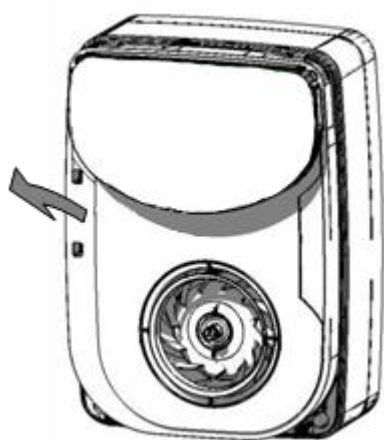
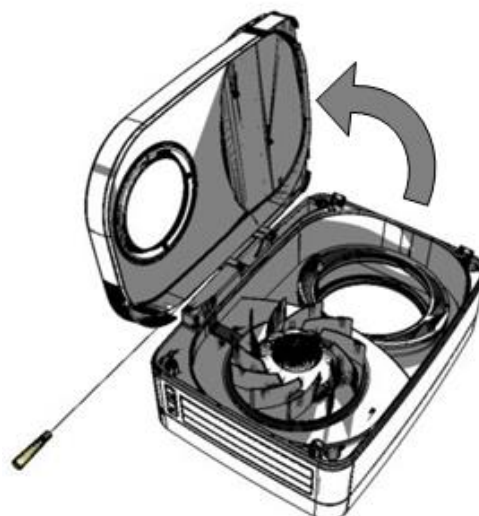

Figure 27
Figure 28
2. Lift where indicated to activate the hinges (Figure 27) then open the door (Figure 28).